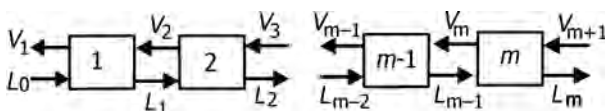

FIGURE 17.18 Flow chart for multistage separations.
- Figure 17.18 illustrates the flow chart for multistage separations.